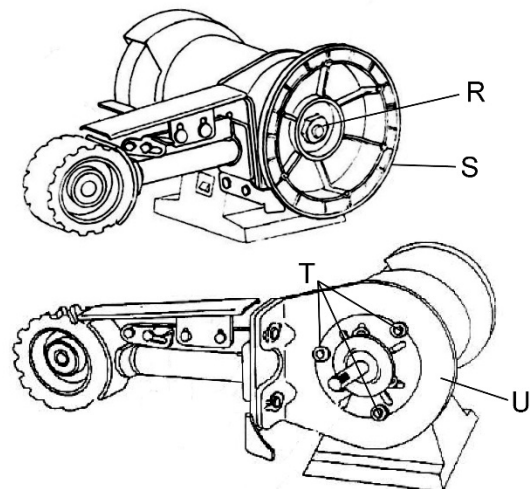

Figure 5-4: Multitool orientation
1. Remove nut (R, Figure 5-4) and slide drive pulley (S) off shaft.
2. Remove 3 screws and washers (T) and rotate adaptor plate (U) to vertical position.